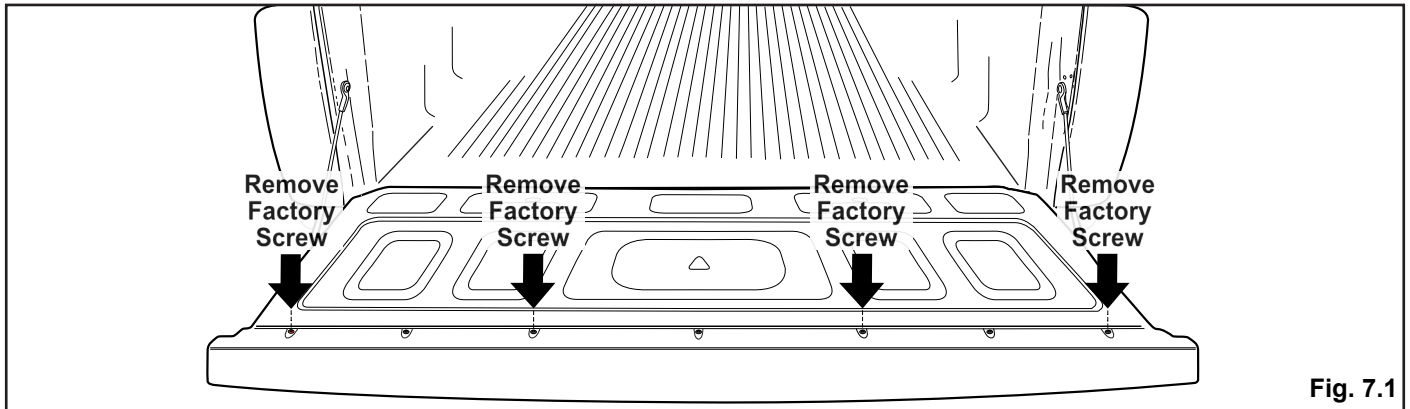

Fig. 7.1
- Place Tailgate Rail (H) in place, aligning it to the 4 screw holes that were removed in Fig. 7.1 and use 4 M6 screws (J) to attach the Tailgate Rail in place.